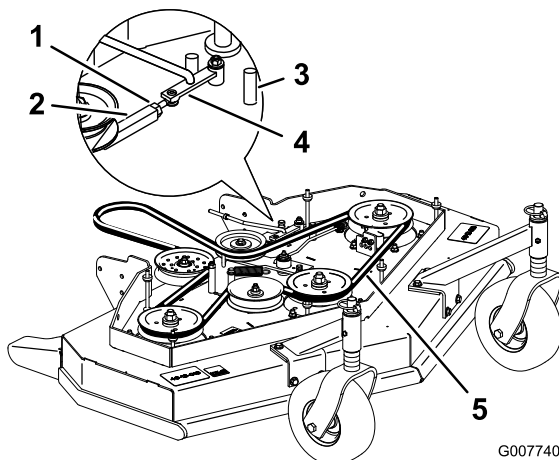

Figure 44
3. Loosen the locknut on the turnbuckle (Figure 44).
4. Rotate the turnbuckle toward the rear of the mower to increase the tension on the belt. Rotate the turnbuckle toward the front of the mower to decrease the tension on the belt (Figure 44).